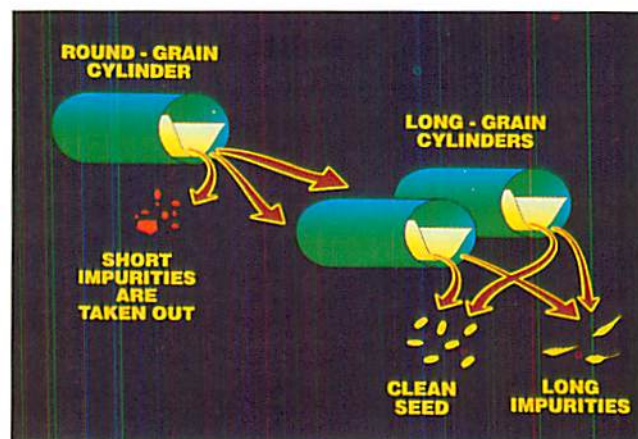

Fig. 68. Cylinders can be used in two different ways: long or round application
- Slow process/low capacity: two long grain cylinders are required to cope with the capacity of the short/round reject application (Fig 68).